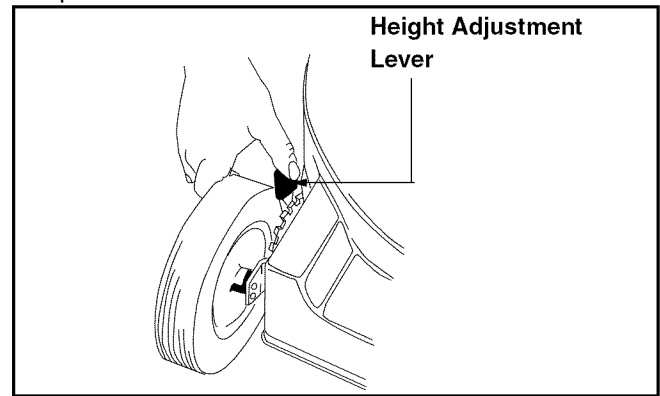

Figure 16
- Simply depress the lever towards the wheel and move the lever assembly to desired position. See Figure 16 .